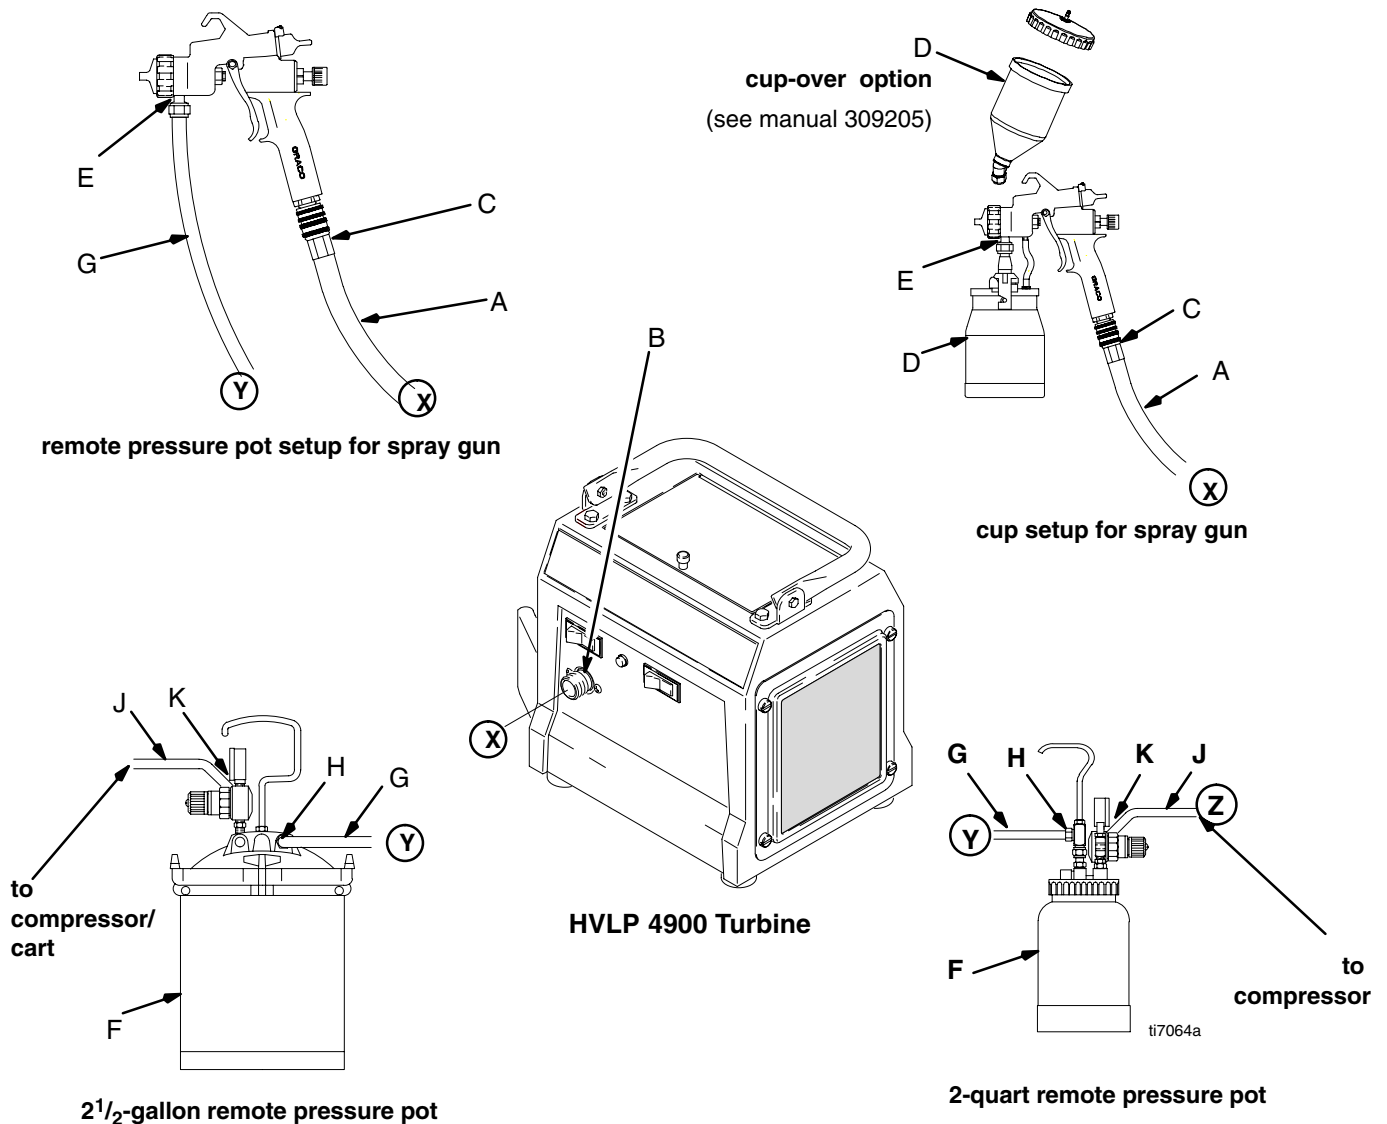

Fig. 3
HVLP Turbine Sprayers have a variety of user options. See Fig. 3.
See Fig. 3
- The circled letters in Fig. 3 indicate hose line connections.
1. Connect gun air supply hose (A) between turbine air outlet (B) and gun air inlet (C). DO NOT use wrench to tighten connections; hand tighten only.